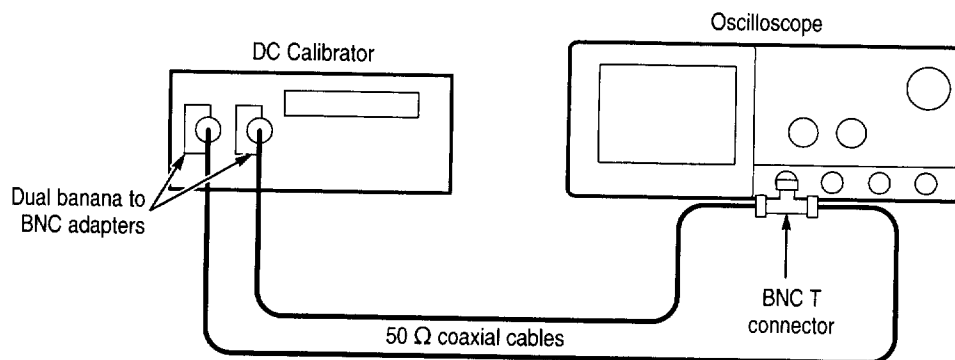

Figure 1-17: Initial test hookup
- a. *Hook up the test-signal source (see Figure 1-17):*